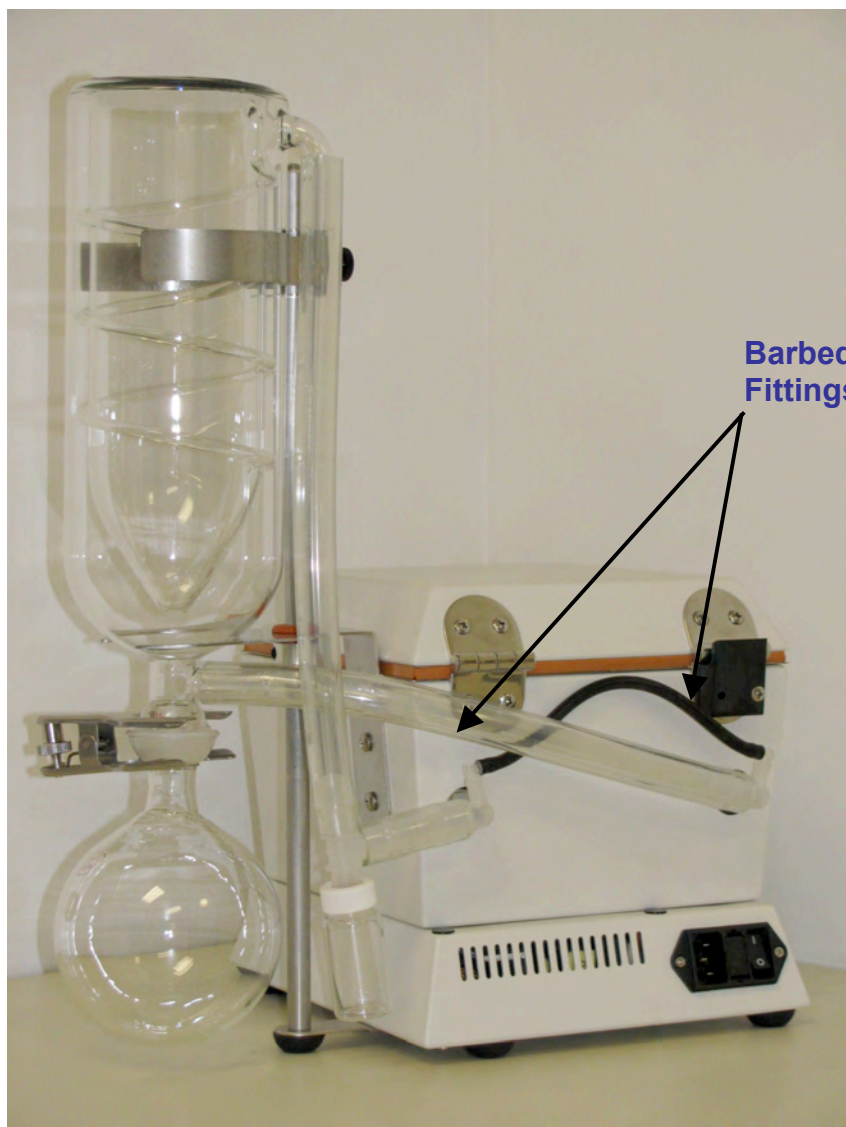

Figure 2-3: Attaching the Cold Trap Assembly and Associated Tubing
- e) Feed the cold trap down through the retaining ring and rest the curved bottom cold trap glassware in the U-shaped cradle of the bracket as shown in Figure 2-3. Rotate the cold trap into its final position so that the tubing connection fittings are directed to the rear of the Centrifan™ PE unit.
- f) Locate the three pieces of ½" ID tubing and make the connections on the back of the Centrifan™ PE unit as shown in Figure 2-3. Twist the plastic fittings as required to
- g) If your application will not require drying in an oxygen-free environment, leave the jumper-piece of 1/8" ID tubing between the two small barbed fittings as shown in Figure 2-3.